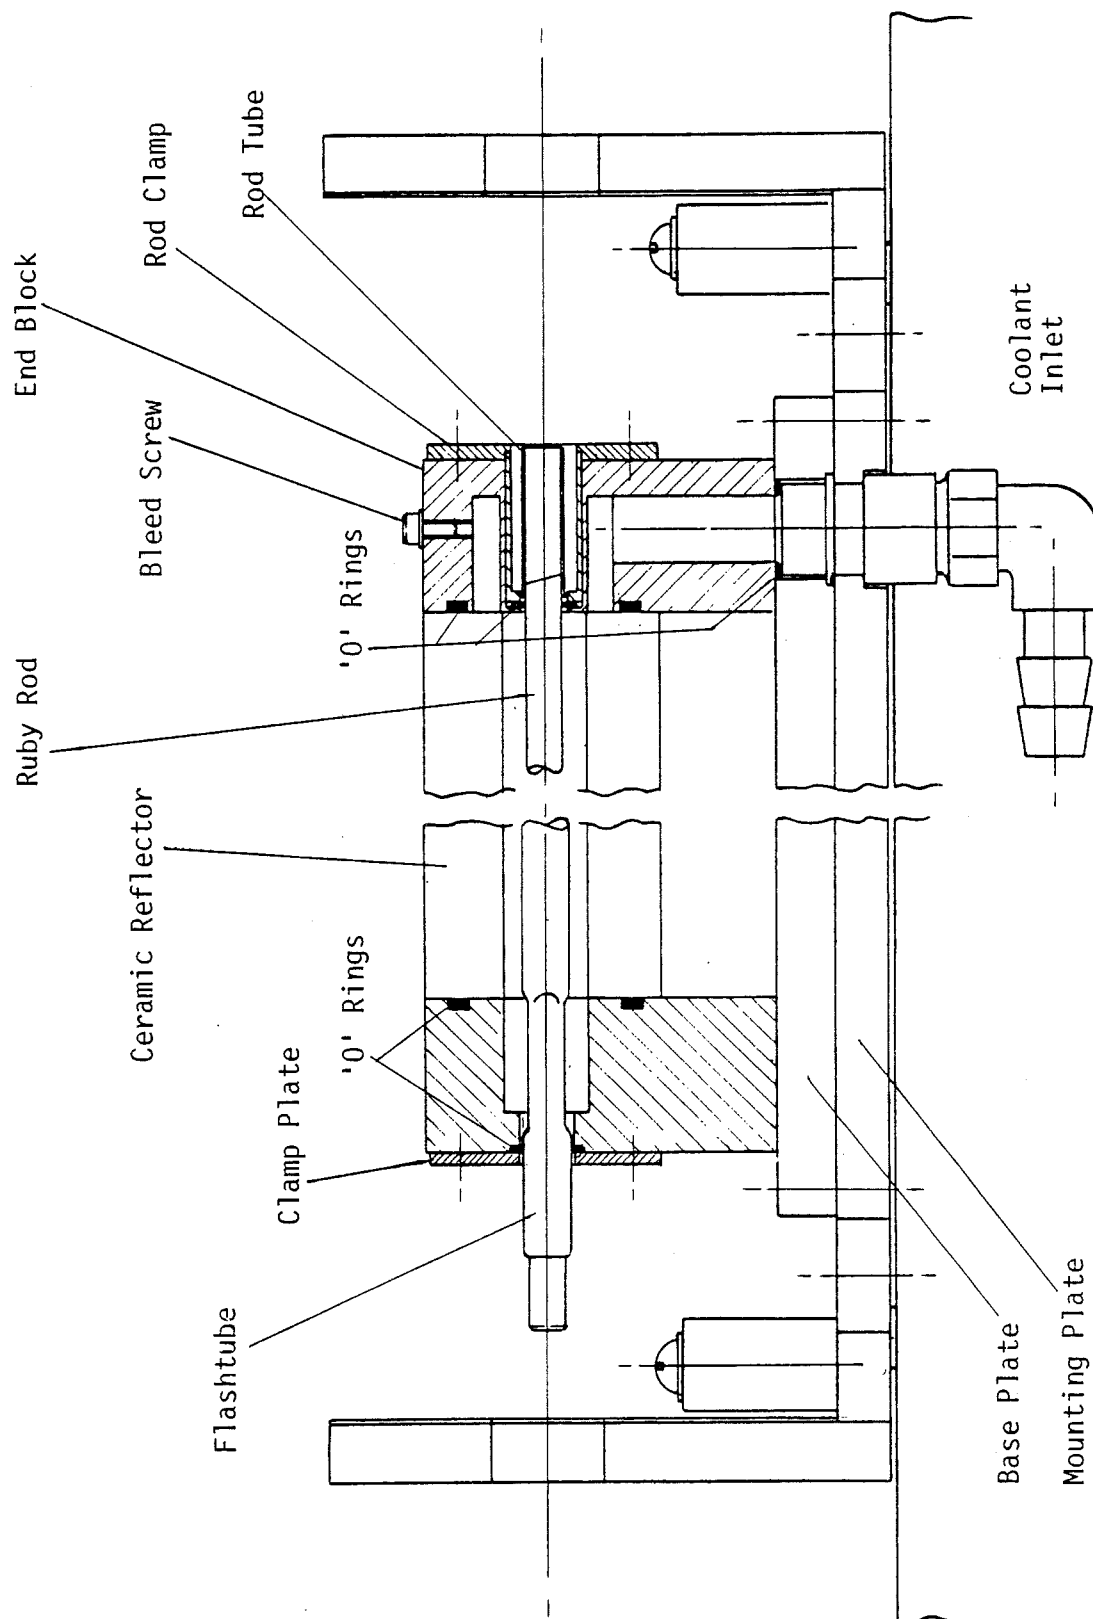

FIG. 5: CROSS-SECTIONS OF LASER HEAD ASSEMBLY SHOWING FLASHTUBE (LEFT) AND ROD (RIGHT)
- iv) Slacken off the bleed screw on the end block. (See Fig. 5.) At this point a hissing sound will be heard as air enters the coolant circuit causing the level of the coolant to fall below the baseplate.